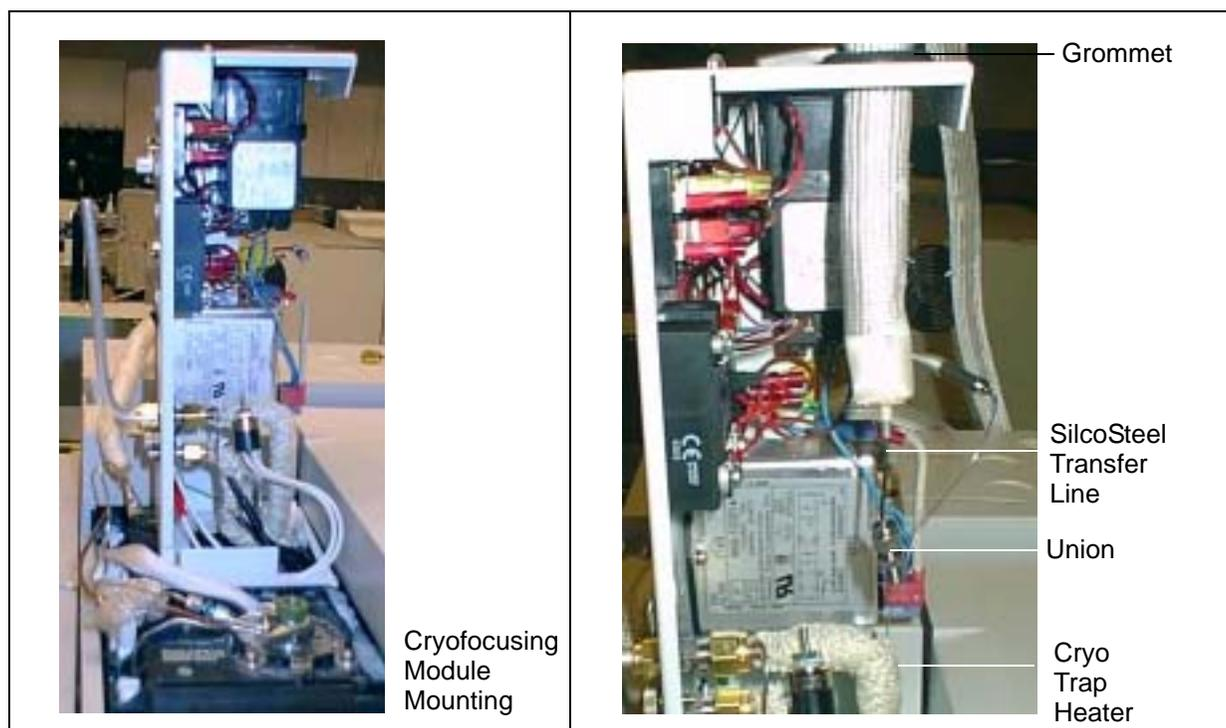

Figure 2-20: Cryofocusing Module Mounted to GC.
6. Feed the 1/32" line through the Cryo Trap Heater (Refer to Figure 2-20) and connect to the 1/16" to 1/16" union with the 0.8mm ferrule (supplied in the Kit Box).
6. Feed the Fused Silica line through the Cryo Trap Heater (Refer to Figure 2-20) and connect to the Zero Dead Volume Union with the Graphite Vespel ferrules (supplied in the Kit Box).